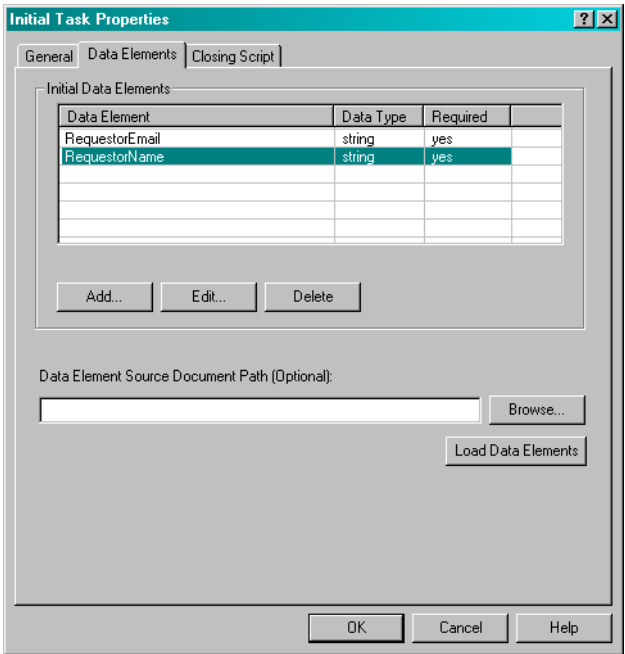

Figure 28-11. Aggregate Data with completed Data Elements tab.
- 1 Click on the **RequestorEmail** value in the **Required** field to toggle it to **yes**. Do the same for the RequestorEmail value. That's it for the Data Elements tab. Compare your work with that of Figure 28-11 below.